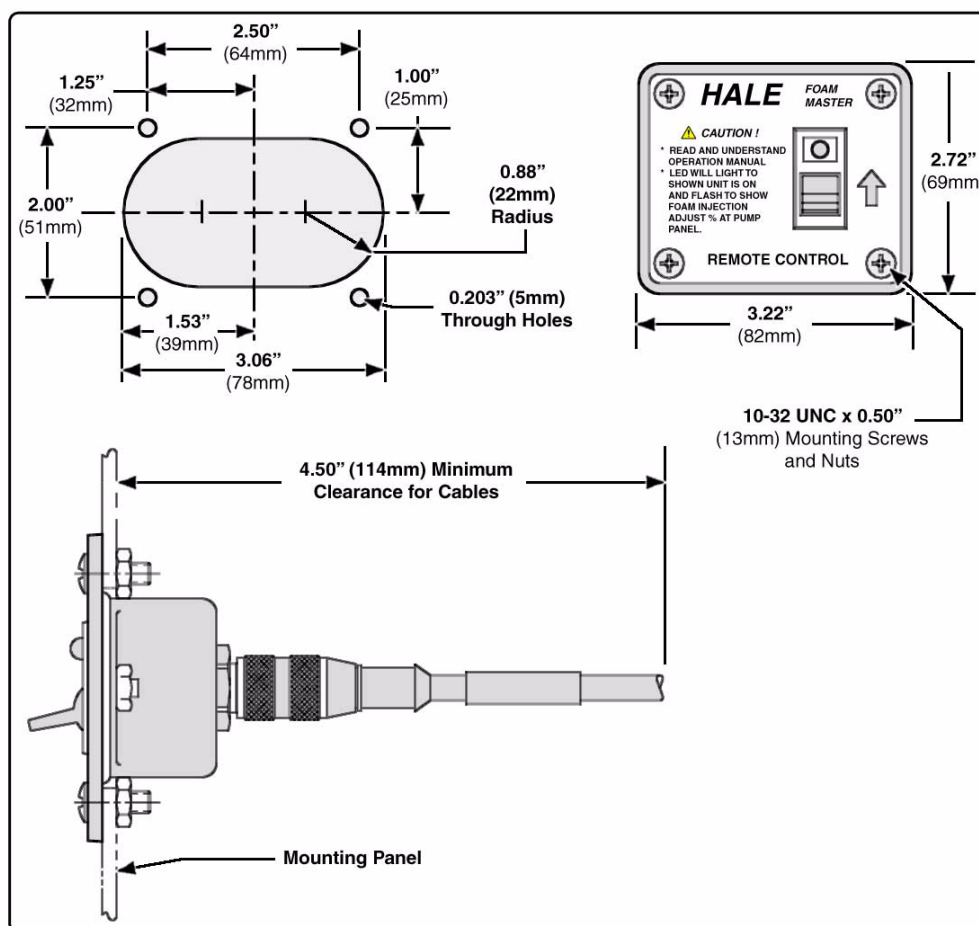

Figure 3-42: Remote Activation Switch Installation Dimensions
(See Figure 3-42: “Remote Activation Switch Installation Dimensions.”)
1. Cutout the panel and drill the four 0.203 inch (5mm) diameter through holes. (See Figure 3-42: "Remote Activation Switch Installation Dimensions" on page 100.)